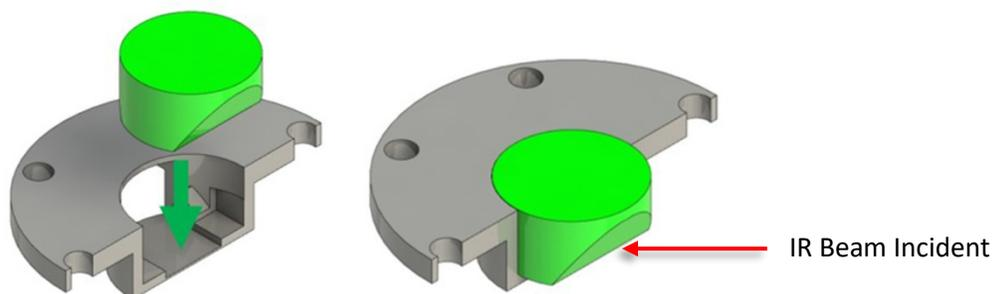

Figure 5. Orientation of FAC in crystal holder
- Place the Au coated face angled crystal in the holder and place in the VeeMAX III top plate (Figure 5).